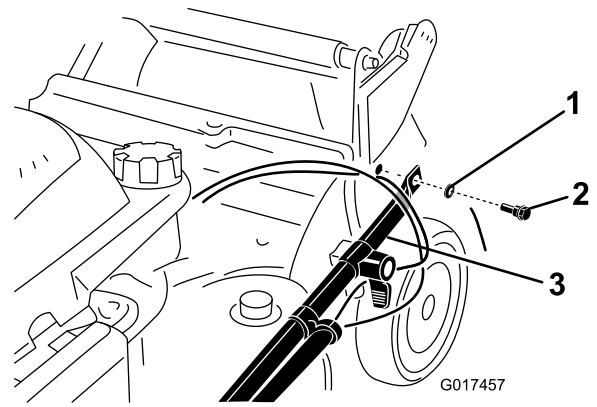

Figure 3
2. Attach the handle ends to the machine housing with 2 washers and 2 handle bolts (Figure 3), **but do not tighten the handle bolts.**
**Important:** Route the cables to the *outside* of the handle (Figure 3).